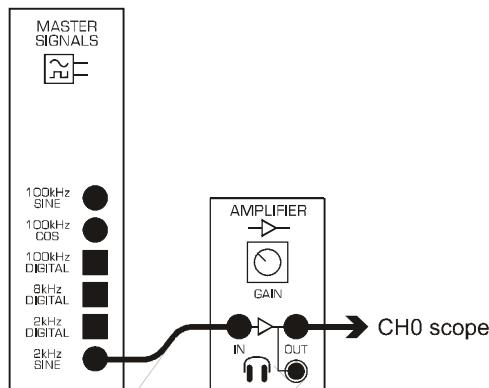

Figure 14: "adjust\_the\_AMP" wiring diagram
1. Use patching cords to wire up DATEx blocks according to the wiring diagram in Figure 14.
An example for controlling a TLPF block from LabVIEW is shown in Figure 14: